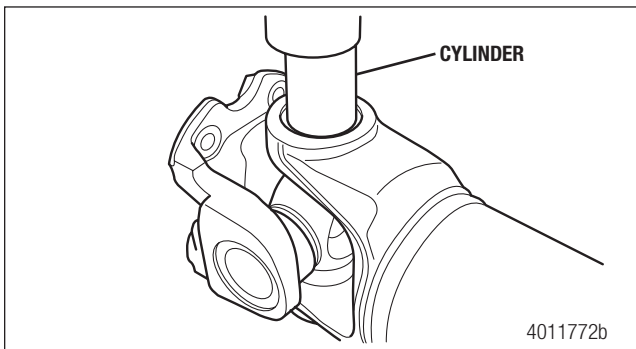

Figure 5.100
10. Install the cylinder and press down to create clearance for snap ring installation. Figure 5.100.